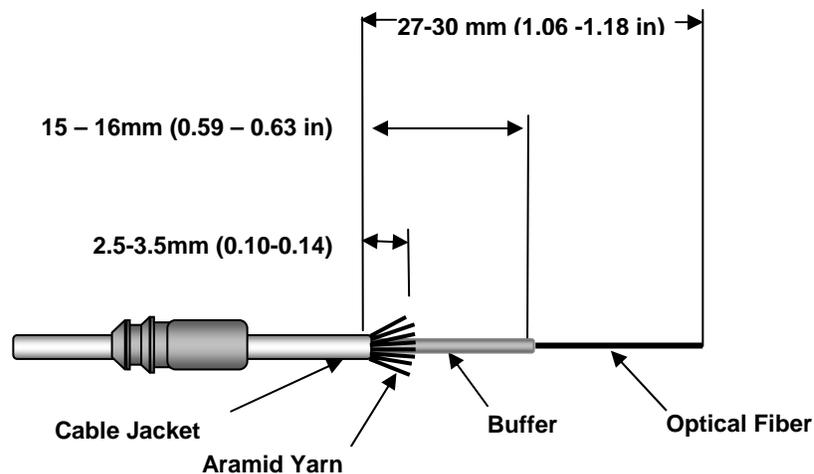

Figure 7-22 – “Loose” Structure Cable Stripping Dimensions for 801 LM and 801 LS Termini
- Step 2 - Mark the “Loose” Structure cable outer jacket 27 mm (1.06 in) - 30 mm (1.18 in). See Figure 7-22.